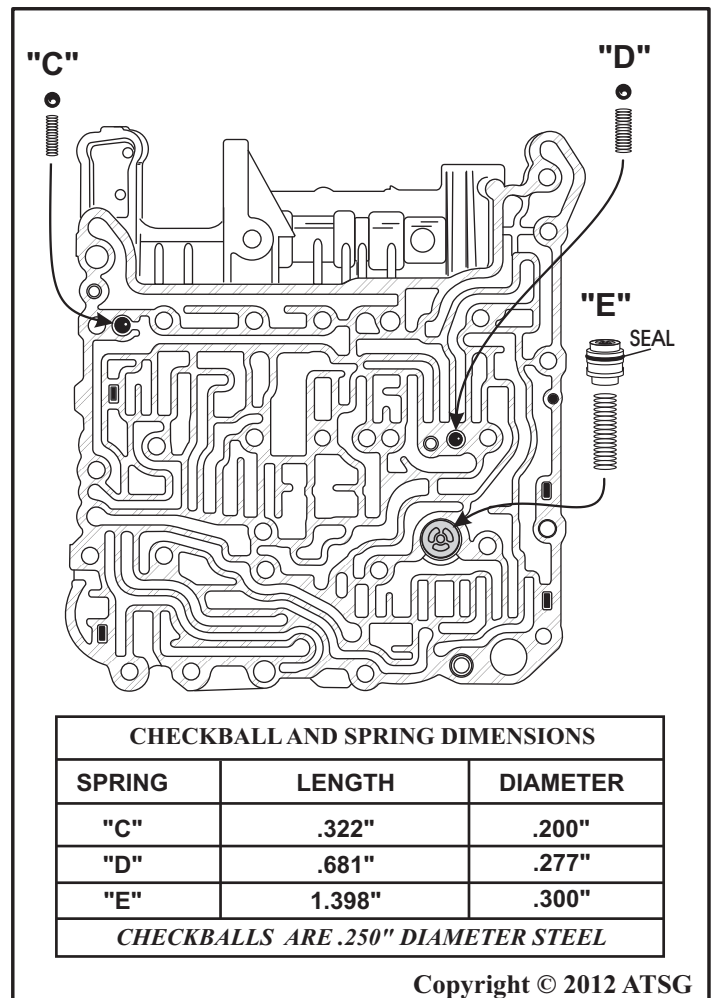

Figure 229
26. Lay the assembled main valve body on a flat work surface, as shown in Figure 229.
27. Install the "C" check ball and spring with the spring going in first, as shown in Figure 229.
28. Install the "D" check ball and spring with the spring going in first, as shown in Figure 229.
29. Install new seal on the damping valve "E" and install assembly with the spring going in first, as shown in Figure 229.
Note: Spring and check ball dimensions are shown in Figure 229.